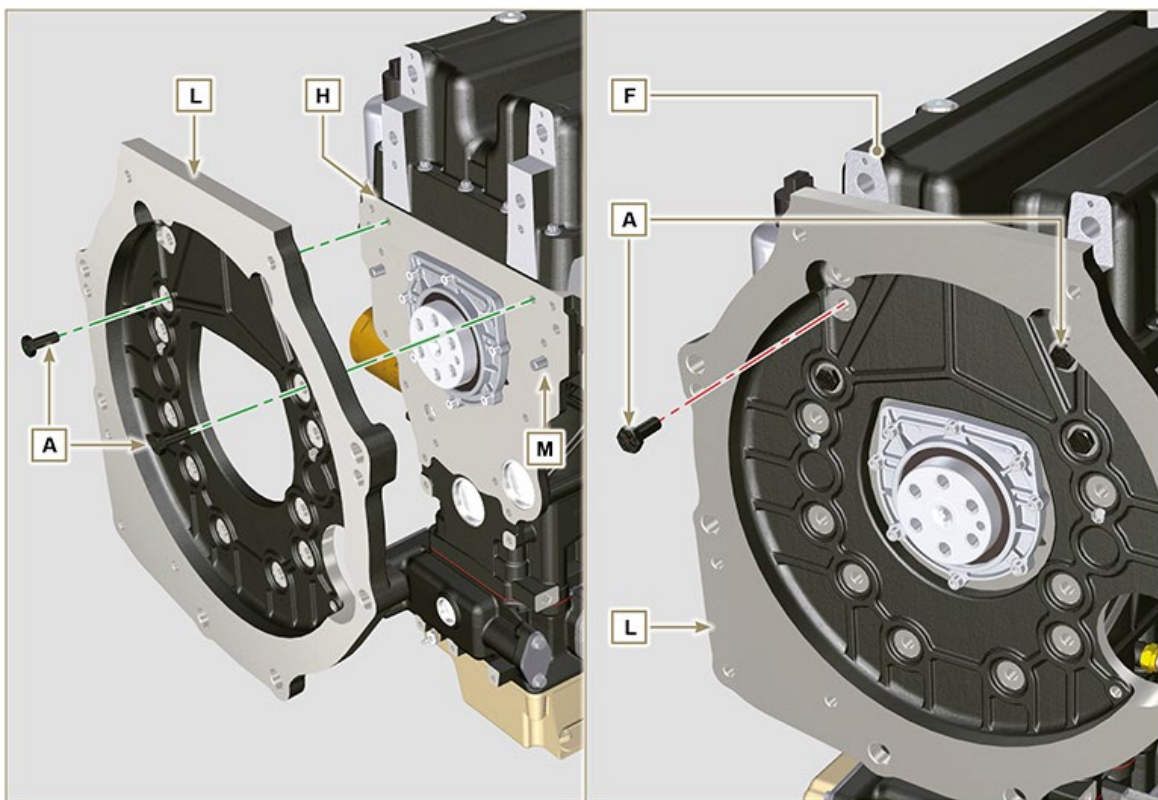

Fig. 11.77
9. Fasten oil sump **F** by tightening capscrews **E** and strictly following the order shown in **Fig. 11.77** (tightening torque at **20 Nm**).
11. Fasten oil sump **F** by tightening capscrews **E** and strictly following the order shown in **Fig. 11.77** (tightening torque at **47 Nm**).